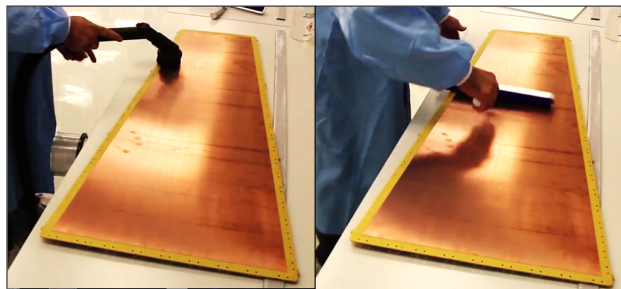

Figure 110: Cleaning the readout board.
Step 3: Clean the active area of the readout board with the vacuum cleaner and with proper care so as not to scratch the copper traces. As for the drift, use the static roller to catch the possible dust left on the board (Fig. 110).